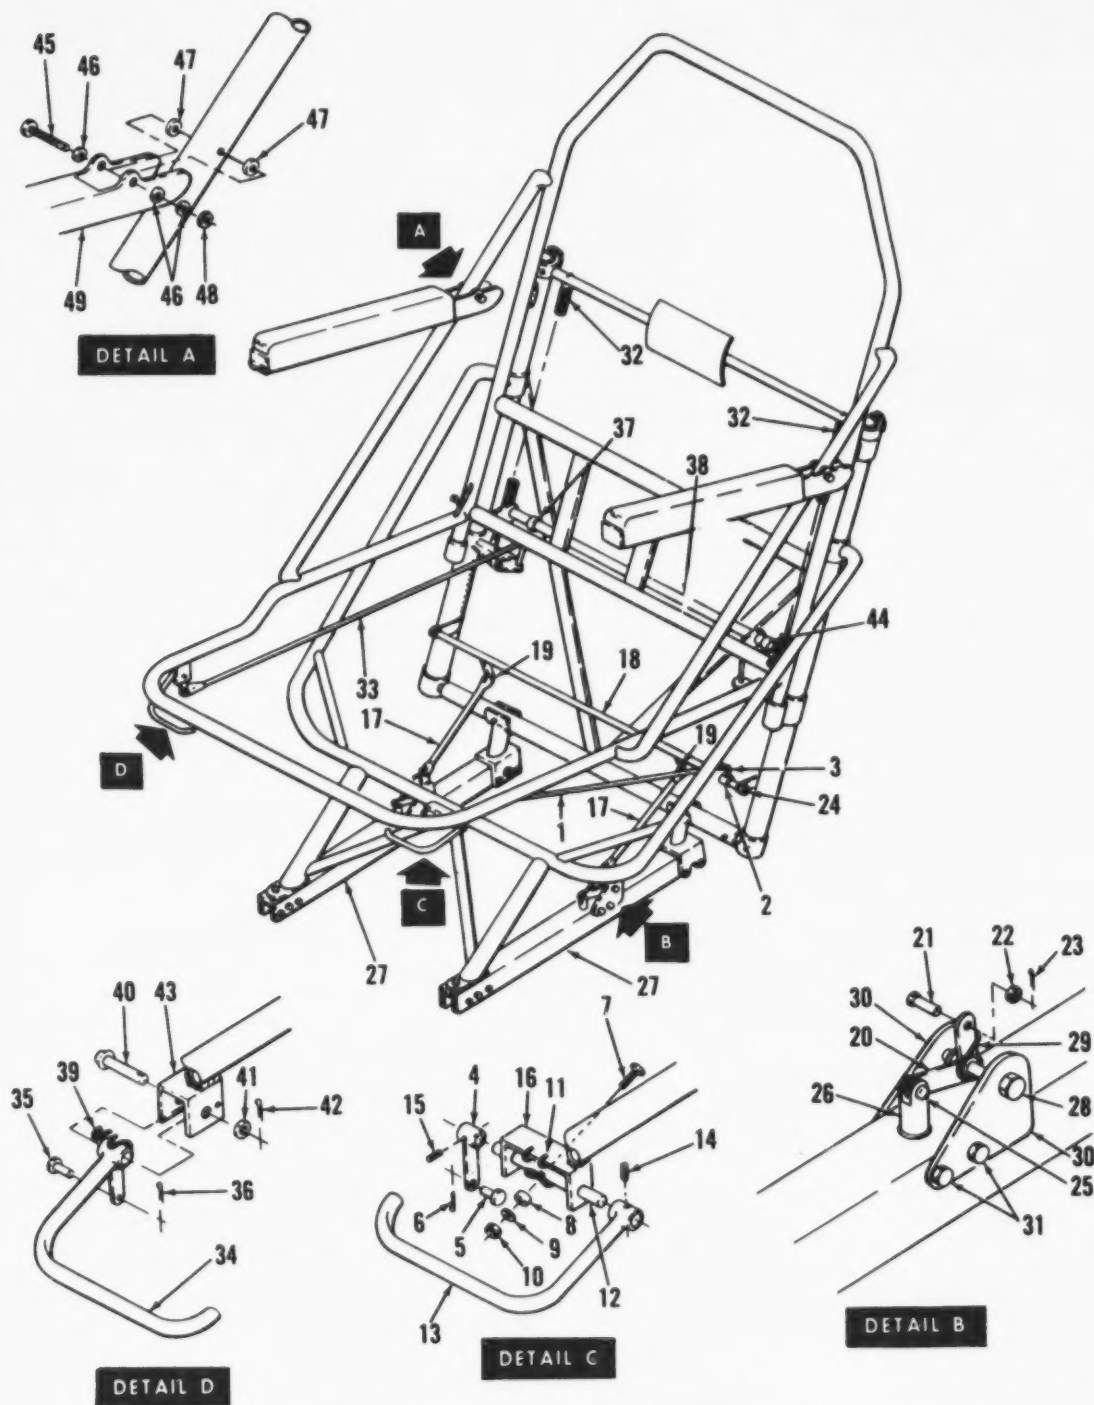

Figure 4-25. Pilot's and copilot's seat locking mechanism (U-8F) (sheet 1 of 2)
a. Removal. (1) Remove pilot's and copilot's seats from aircraft in accordance with paragraph 4-159.
(2) Remove pan from seat back frame by removing screws.
(3) Disconnect one end of link assembly (1, figure 4-25) from bellcrank (2) by removing pin and cotter pin (3). Disconnect other end from bellcrank (4) by removing pin (5) and cotter pin (6).
(4) Remove screw (7), spacer (8), washer (9), nut (10), and spring (11) from axle (12).
(5) Remove handle (13) by removing spring pin (14).